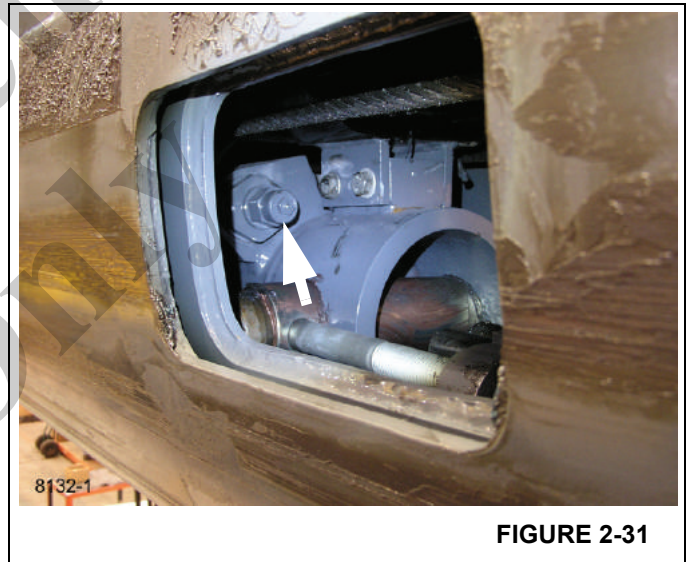

FIGURE 2-31
5. Unscrew holding valve from its port block. (See Figure 2-31 and Figure 2-44.)